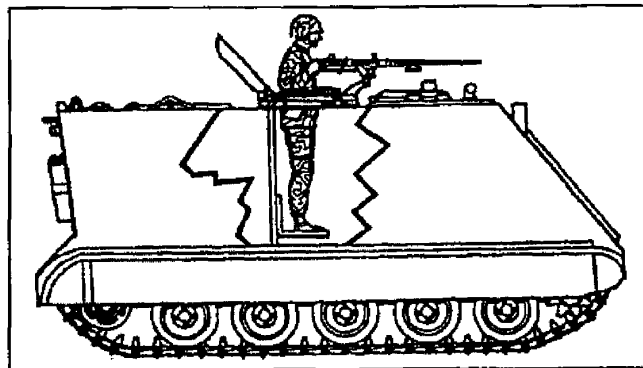

Figure 071-313-3454-4. Standing position (cupola mount)
e. Standing position for high-mobility, multipurpose wheeled vehicle (HMMWW)-mounted gun (figure 071-313-3454-5).